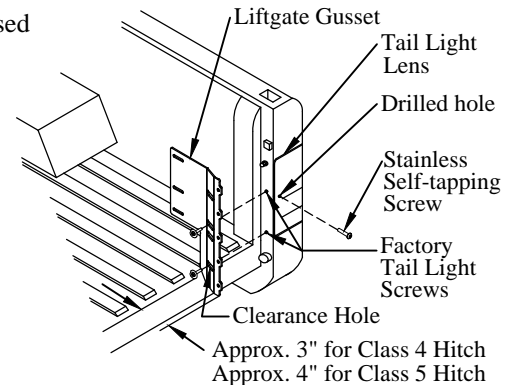

Figure 6: Tail light modification detail (if needed).
1. **Remove** the two (2) factory tail light screws from each tail light lens (Figure 6).
2. Carefully **Drill** a 9/64" hole through each tail light lens and internal sheet metal (Figure 6).